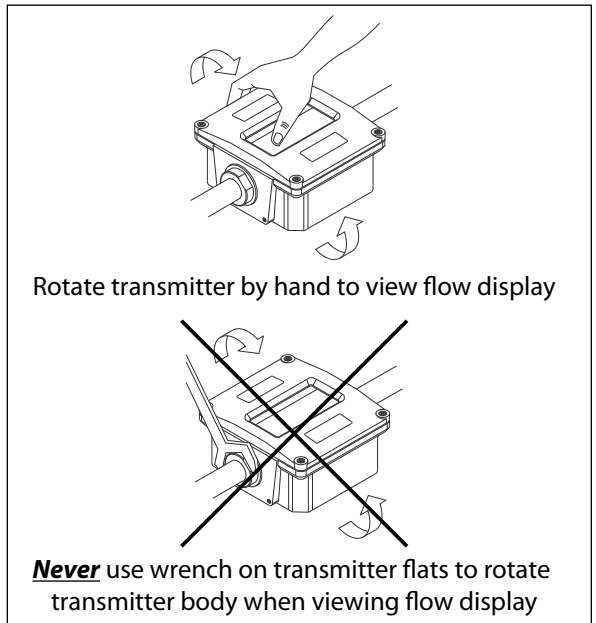

Figure 7 - Rotating Meter
6. After installation, rotate transmitter by hand to view display. See **Figure 7**.